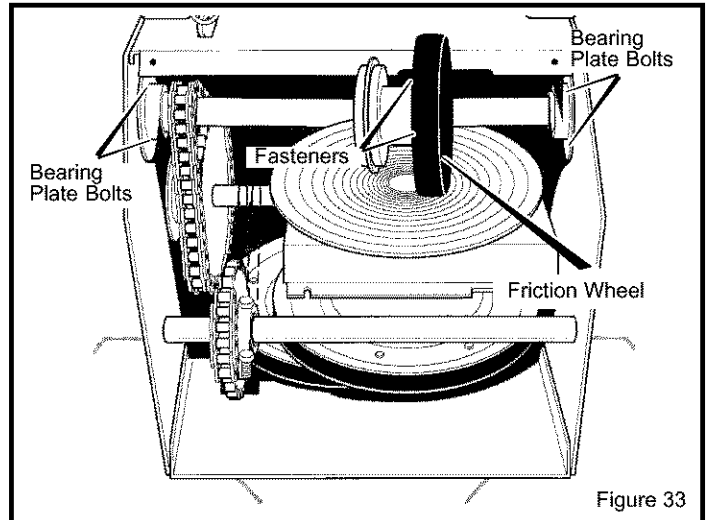

Figure 33
5. Remove fasteners securing friction wheel to hub, and set fasteners aside (see Figure 33).